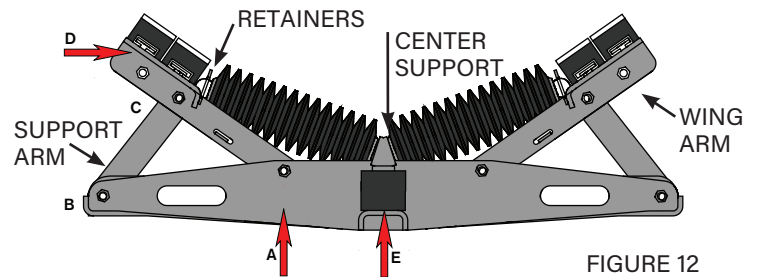
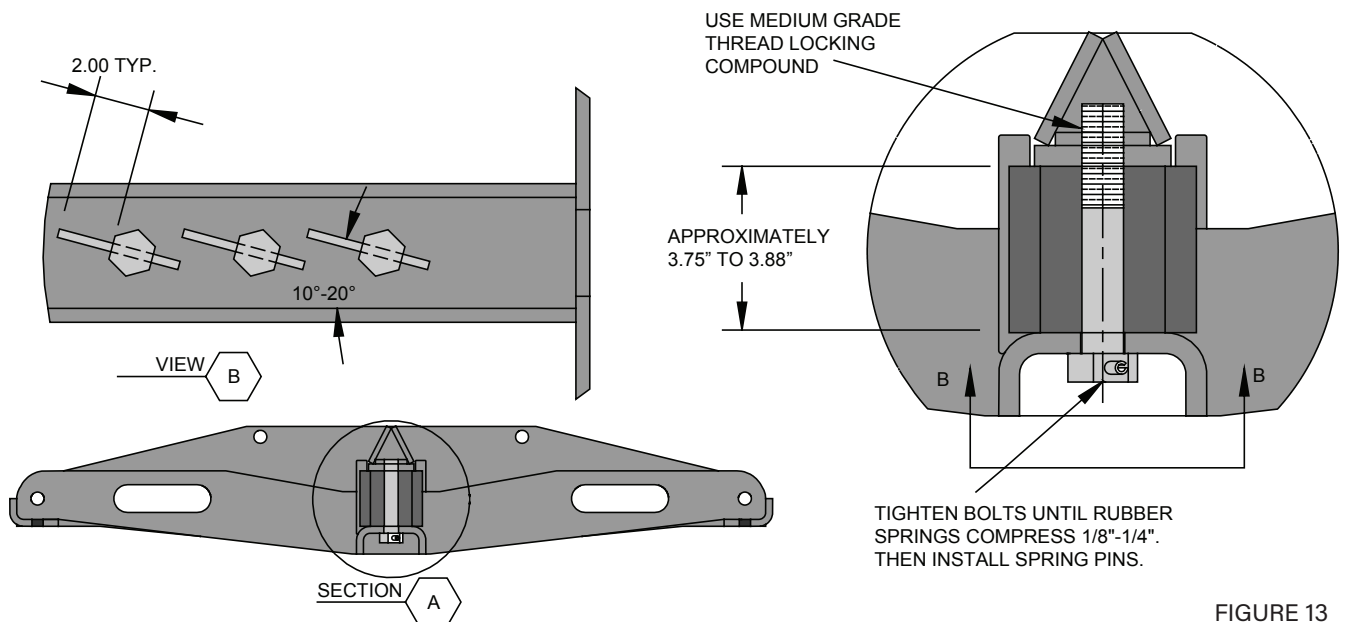

FIGURE 12
FIGURE 13
2. Remove the large bolts from underneath the Trougher Impact System shown in figure 12 at location E. To remove these bolts, first remove the roll pin from the head of the bolt. See figure 13.
7. Once the bolts have been tightened, hammer the roll pins into the head of each bolt. This can be accomplished when the hole in the bolt head is 10 to 20 degrees from the center axis of the U channel (See figure 13 below.)